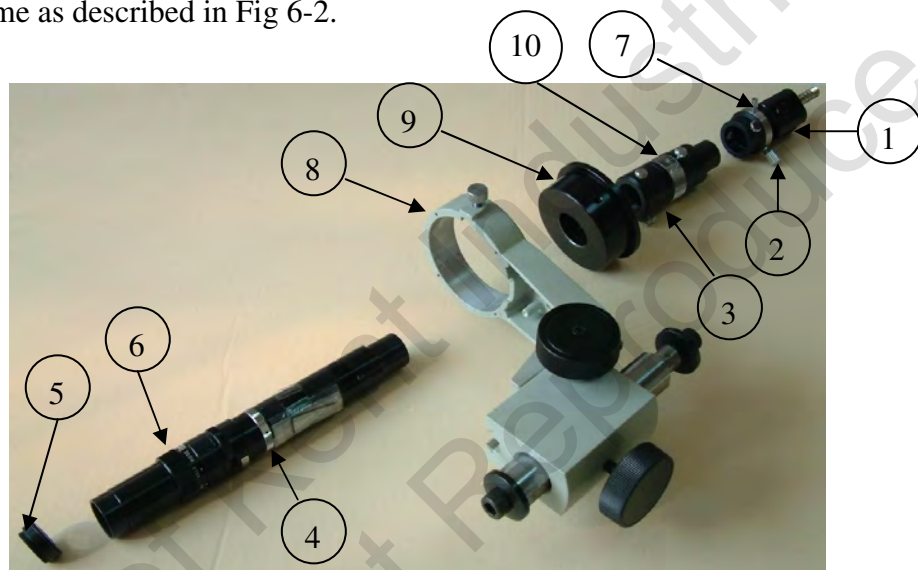
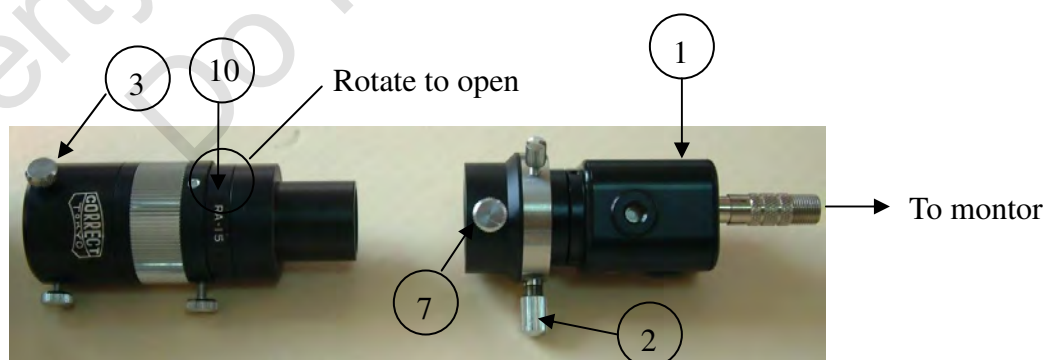
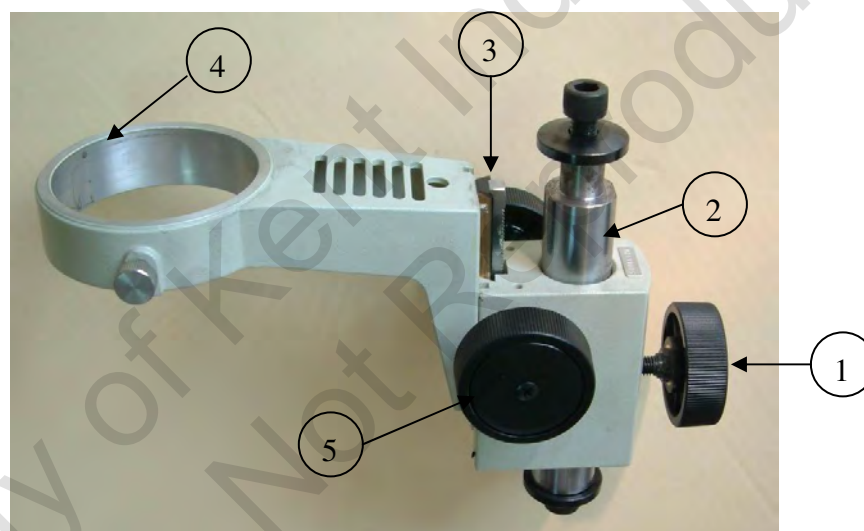

Fig 6-2 The individual part of the inspecting system
Fig 6-3 The upper unit of the inspecting system
Fig 6-5 Up-Down assembling set
Please refer to Fig 6-2 .The number indexed in the picture is accordance with the number described above.
The detail of the device could refer to Fig 6-3.The function of the number is the same as described in Fig 6-2.
The detailed picture of part ⑧ in Fig 6-2 is showed in Fig6-5
- ⑤ Knob2: To clamp part ③ of Fig 6-5 when the height of the device is set already .
The entire assembly of Fig 6-2 was shown in Fig 6-6
Adjust (left and right, up and down) the whole picture by adjusting the 3 adjuster (part ② in Fig 6-3). Until the image is on the center of the monitor.
1. Loosen part ⑦ of Fig 6-2.
2. Pull the whole upper column(part ①) up and down to adjust the focus of the scale Line.
3. Clamp part ⑦ of Fig 6-2
※ ⑤,⑥,⑦ are the number in Fig 6-2
Refer to Fig 6-3
2. Holder: To hold part 1 and link itself with part 7 by the part 4 and part 6. The part 1 here is the same as part 8 in Fig 6-2.
4. Stepped column: Link part 2 with part 7. The same as part 2 in Fig 6-5.
3. Put part 1 (inspecting device) into part 2 (holder) by loosening the screw located on part 4 (sleeve) of Fig 6-5 and then fasten the screw.